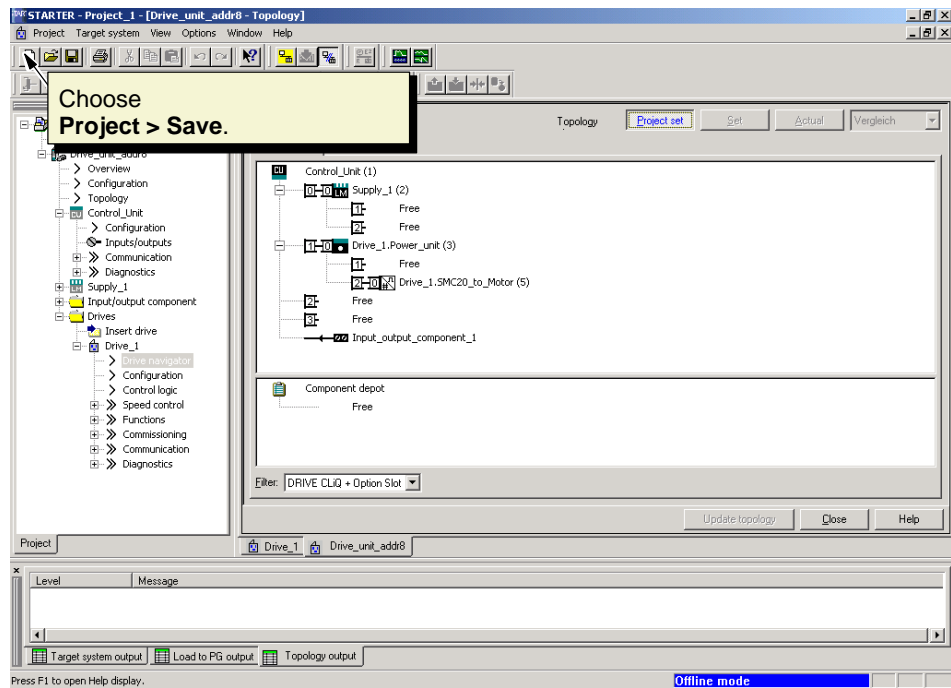

Fig. 5-21 Topology tree
10. In this window, check the topology and DRIVE–CLiQ connection and compare this with the actual topology (see Fig. 5-21).